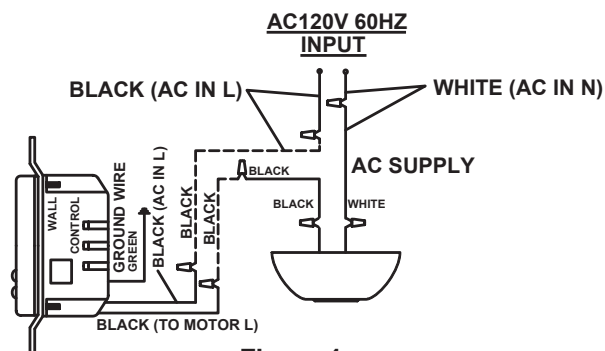

Figure 1
1. Installing Wall Control (Figure 1):
- Make wiring connections with wire nuts as shown in Figure 1.